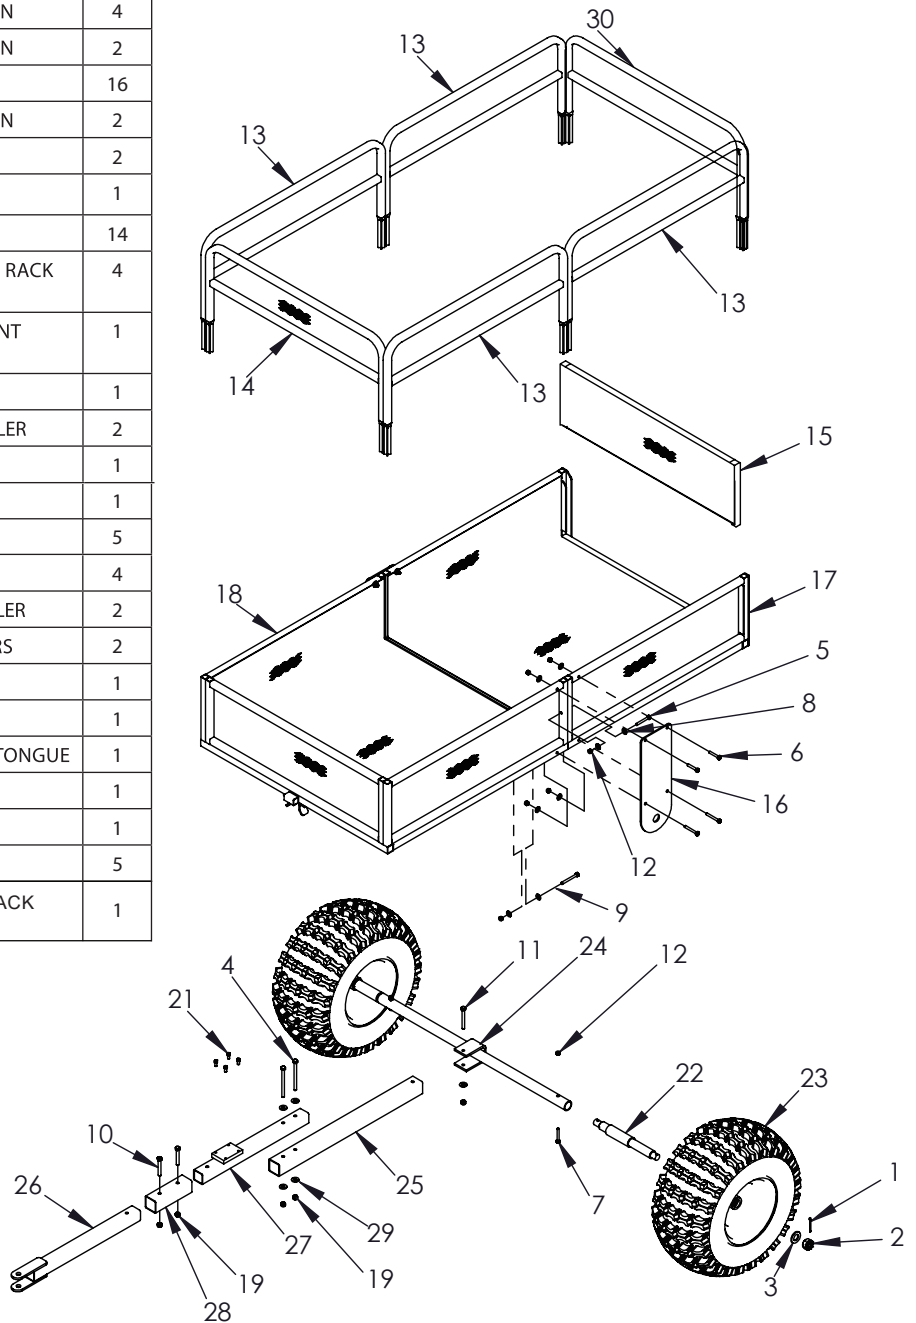

FIGURE 1
1. Insert rear tongue tube (TK81) to the welded-on "U"-bracket located on the axle tube (TK80) using (1) provided 5/16-18 x 2-3/4" bolt, nyloc nut and 5/16" washer. **SEE FIGURE 1.**
2. Insert the front hitch tongue (TK85) and the rear hitch tongue (TK87) into the connector pocket (TK89) and secure using (2) provided 5/16-18 x 2-1/4" bolts and nyloc nuts. **SEE FIGURE 1.**
3. Attach the assembled hitch tongue to the rear tongue tube using (2) provided 5/16-18 x 4" bolts, nyloc nuts and (4) steel washers. Be sure the entire tongue assembly is aligned before tightening. **SEE FIGURE 1.**
4. Slide the axle plate (300705) over the short end of axle spindle (TK48). Thread the short end of axle spindle into the axle tube until tight. Back the axle spindle until holes are aligned and secure using (1) provided 1/4-20 x 1-3/4" bolt and nyloc nut. **SEE FIGURE 1.** Repeat this step for the other side.
5. Support the trailer far enough off the ground for the assembly of the wheels. Slide the wheel onto the threaded axle spindle with grease fitting facing outward. Secure in place following this order: wheel, 3/4" washer, 3/4" crown nut and cotter pin. Back crown nut off just enough so wheel spins freely and crown nut slot aligns with hole in threaded axle spindle. Insert cotter pin. Using a needle nose pliers, bend cotter pin ears around so it will not come off the axle spindle. Repeat this step for remaining wheel. **SEE FIGURE 1.**
6. Attach front trailer frame and the rear trailer frame together using (2) provided 1/4-20 x 2" bolts, (2) 1/4x20 x 2-1/2" bolts, (4) nyloc nuts and (8) 1/4" washers. **SEE FIGURE 1.**
7. Attach the front trailer frame (300713) to the axle plates using (2) provided 1/4-20 x 1-1/2" bolts, (2) 1/4-20 x 2" bolts, (4) nyloc nuts and (4) 1/4" washers. **SEE FIGURE 1.** Latch the front trailer frame to the latch located on trailer tongue to hold in place.
8. Attach the rear trailer frame (300710) to the axle plates using (2) provided 1/4-20 x 1-1/2" bolts, (2) 1/4-20 x 2" bolts, (4) nyloc nuts and (4) 1/4" washers. **SEE FIGURE 1.** You may now tighten all nut & bolt assemblies. Be sure not to over tighten or crush tubing when tightening.
9. Slide the removable tailgate (300704) into the slots of rear trailer frame. Slide the removable side rails (300700 & 300701) into the top side of front and rear trailer frames. **SEE FIGURE 1.**